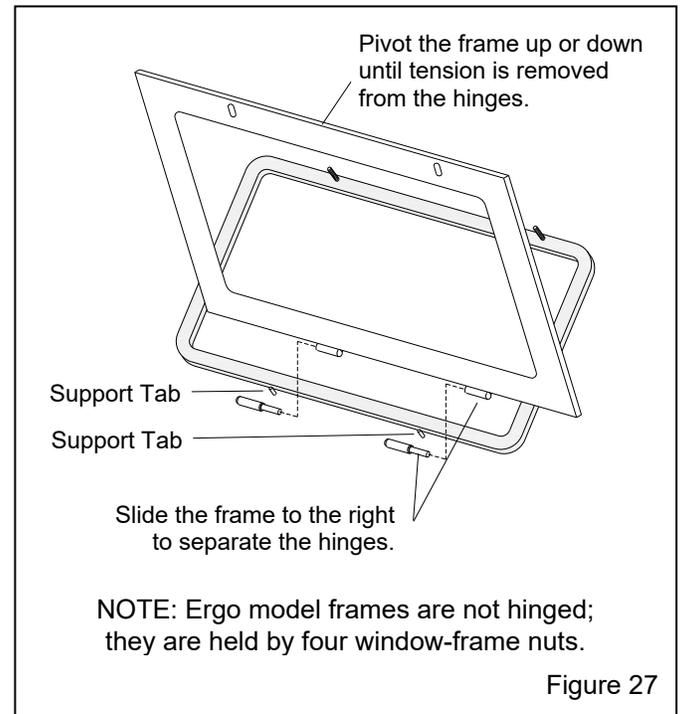

Figure 27
## 7.7 Window-Frame Removal – Figure 27
**7.7.4** Slide the frame to the right to remove it. The hinges separate, as shown in Figure 27.